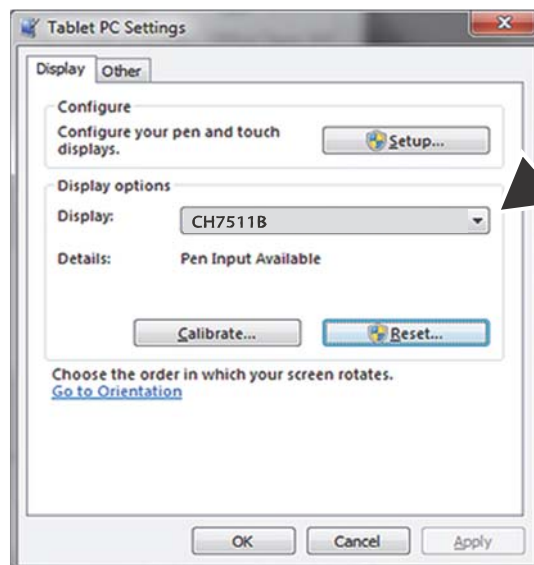

Figure 17-3 Tablet PC Settings window
The Tablet PC Setting window is displayed (Figure 17-3).
2. Select the display to be calibrated from the dropdown list. The default diagnostic tool display is “CH7511B” (Figure 17-3).